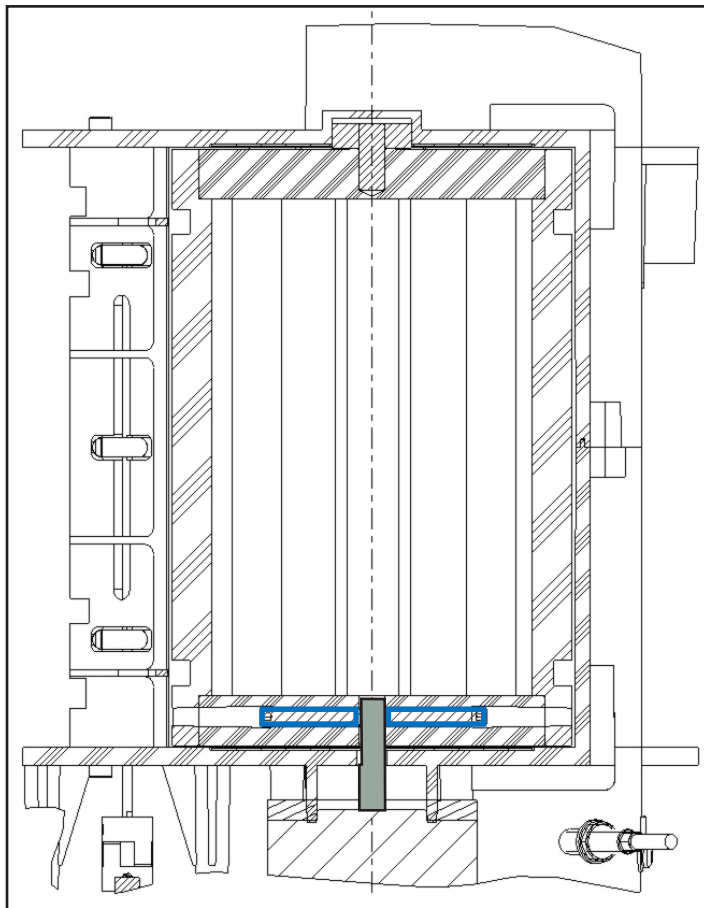

Figure 32: Top view cross section of the feeder drum with the feeder motor axle and its set screws
4 Unscrew the two (2) 2-millimeter hex socket set screws inside screw shafts drilled into the feeder drum on opposite sides of the cylinder wall, that engage with the feeder motor axle (marked blue in Figure 32).